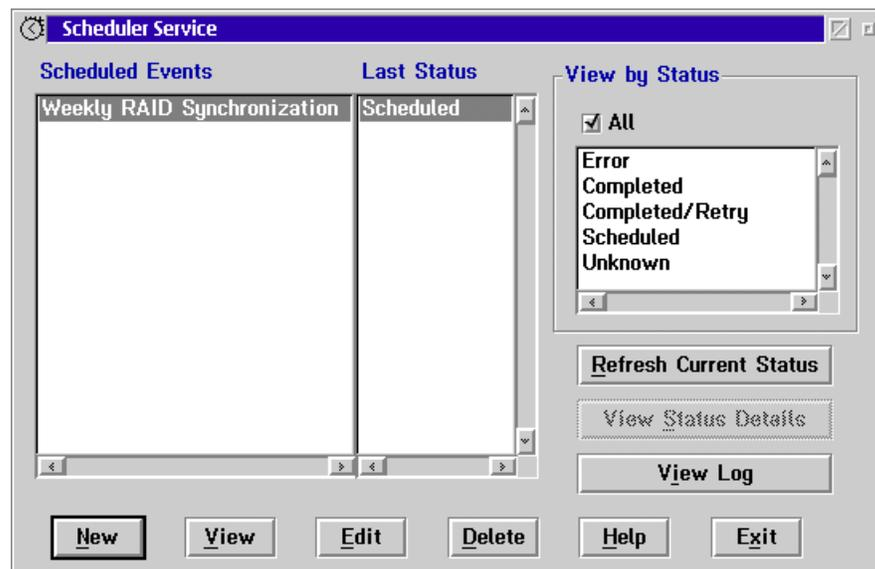

Figure 40. Scheduled Events
7. Click on **Save**. Figure 40 appears.